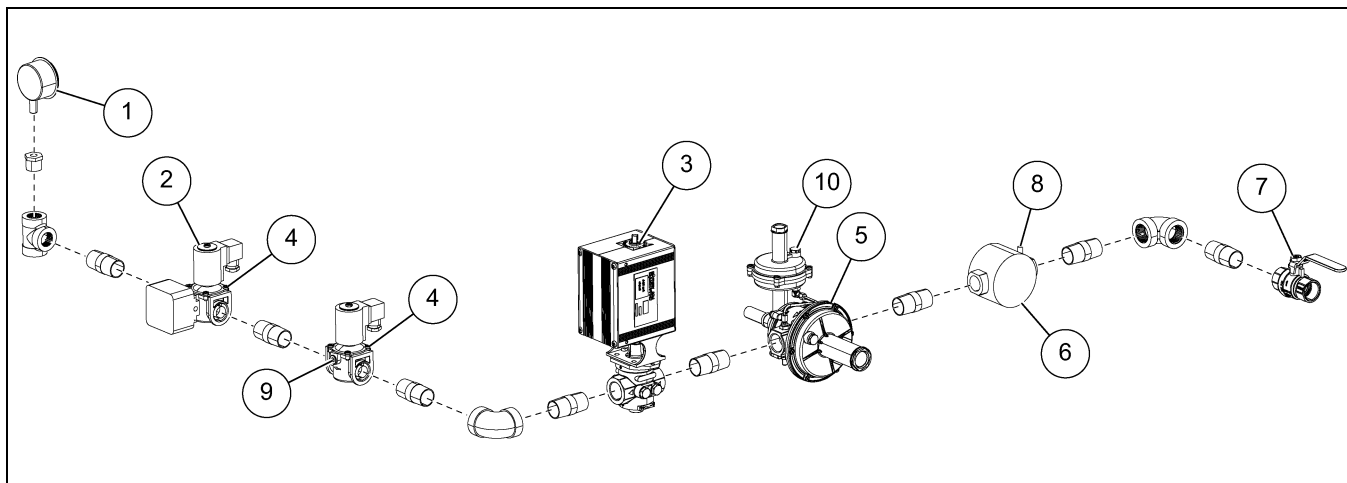

Figure 4N Fuel Train
1. Remove cover (1) from regulator adjuster.
3. Open pressure test point and fit manometer. (See Ref #9 in Figure 4N on Page 31.)
6. Re-fit adjuster cover and close test point. (See Ref #9 in Figure 4N on Page 31.)
3. Note the pressure on the pressure gauge. (See Figure 4N on Page 31.)